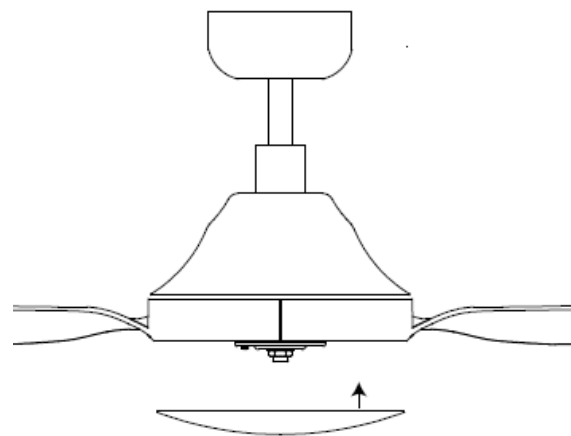

Fig. 11
3. Finally install the bottom cover to the shaft by rotating it clockwise. **Fig. 11**